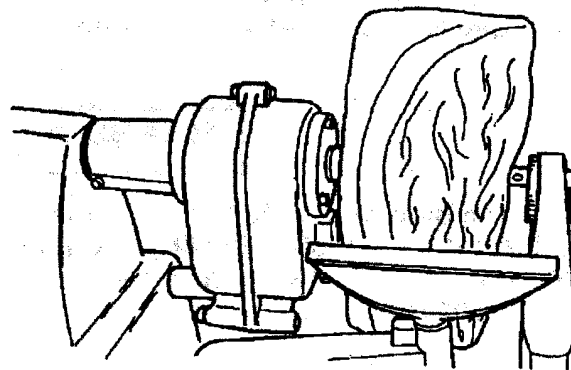

Fig.16
15. If the turning stock is out of round and unbalanced (as in Fig.16), turn it to round at the "roughing" speeds recommended in the Lathe Turning Speed Chart below.